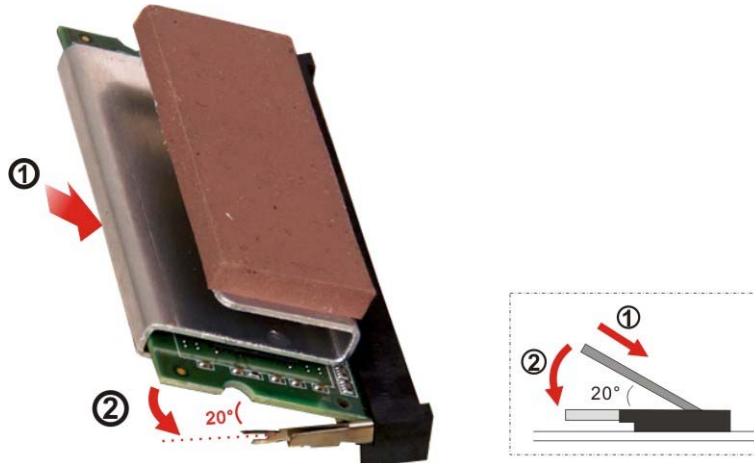

Figure 3-4: SO-DIMM Installation
Step 5: Insert the SO-DIMM. Push the memory in at a 20° angle (**Figure 3-4**)
Step 6: Seat the SO-DIMM. Gently push downwards and the arms clip into place. See **Figure 3-4**.